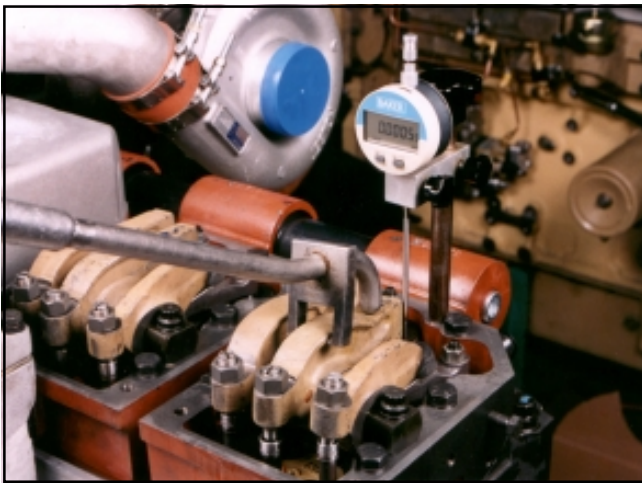

Fig. 7-20. Dial indicator in place—extension in contact with plunger
**Note :** Any valve set position may be used as a starting point when adjusting the injectors, crossheads and valves. Determine which of the two (2) cylinder indicated have both valves closed (rocker levers free). This cylinder is in position for injector plunger travel, crosshead and valve adjustment.
2. Set up 3375007 Support Block on the rocker lever housing, of the cylinder selected, with the 3375005 dial indicator extension on the injector plunger top. Fig. 7-20.